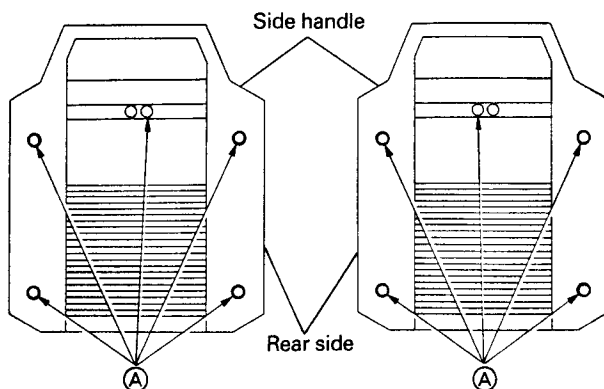

Fig. 4
3. Top panel and front case (Fig. 4, 5, 6)